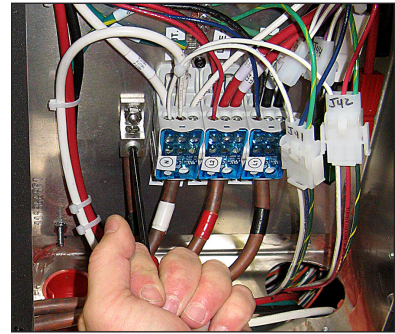

Figure 29: Connect Ground Wire
6. Connect the ground wire to the ground lug at the bottom of the power entrance box (green wire) and tighten to 45 in-lbs with a $\frac{3}{16}$ " Allen wrench. Refer to **Figure 29**